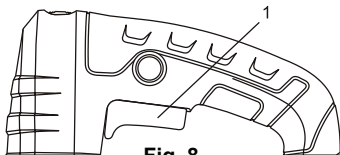

Fig. 8
1. To turn the jigsaw ON, squeeze the trigger switch (1) to start the jigsaw (Fig. 8).